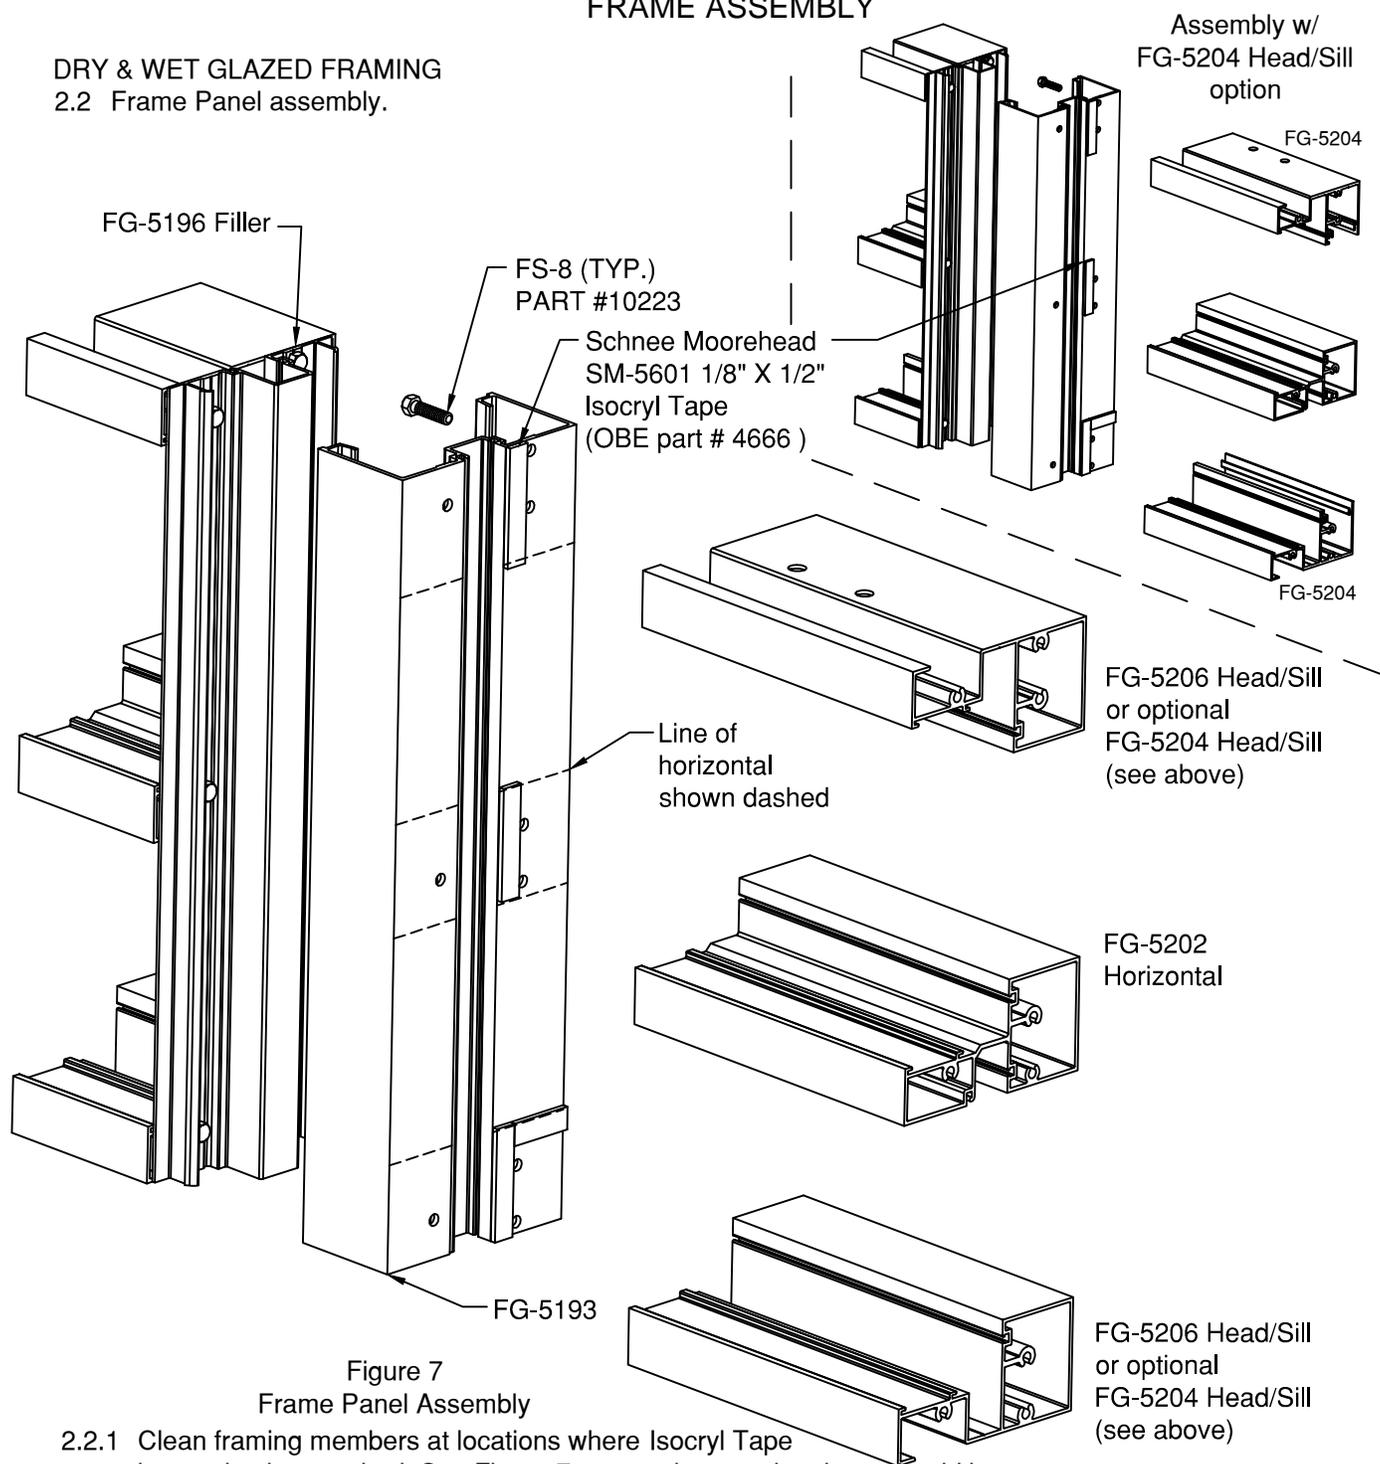

Figure 7
- 2.2.1 Clean framing members at locations where Isocryl Tape is noted to be attached. See Figure 7, at tape intersection there should be no gaps.
Note: also install FG-5185 at vertical , if it was not installed prior to attaching horizontals **see Figure 7 on Page 12** .